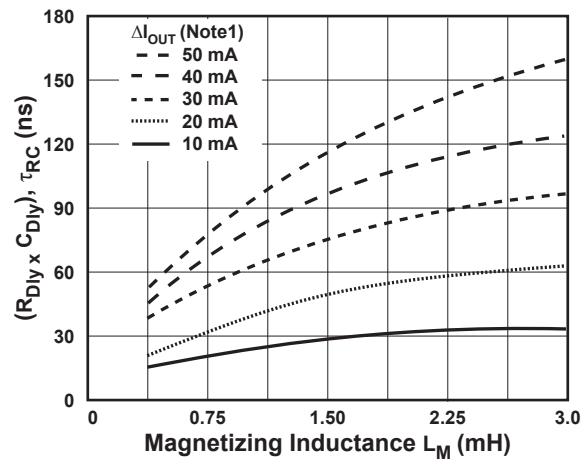

Figure 12.7 : T_{ON} Compensation Chart $R_{DS(ON)} = 55 - 250 \Omega$
2. Find the curve that best matches this difference from Figure 12.7.